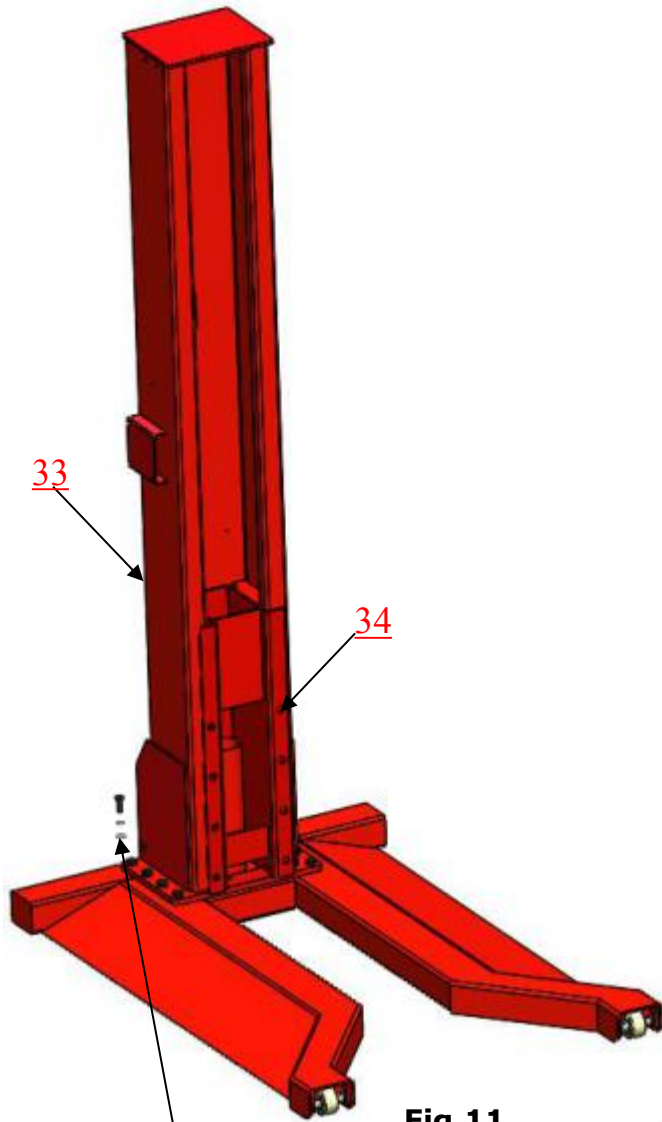

Fig.11
- 3. Fix column to the base plate. (See Fig.11)